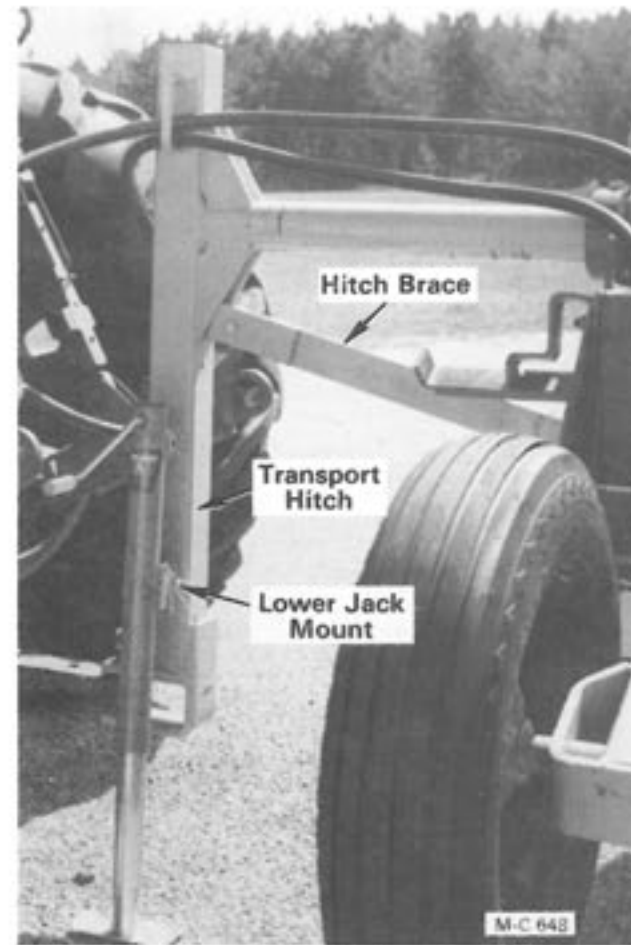

Figure 15
2. Move the jack on the end transport hitch down to the lower jack mount. Lower the jack to the ground to take the weight off of the tractor drawbar, see Figure 15.